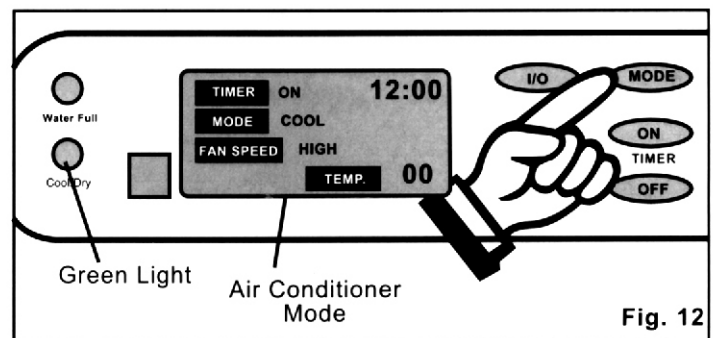

Fig. 12
- 3) Press the **MODE** key until the word **COOL** is displayed in the **LCD (Liquid Crystal Display)** window. *Fig. 12.* Each depression of the **MODE** key will advance to a different mode setting (**Cool-Dry-Fan-**).